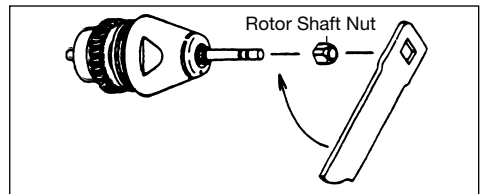

Fig.15
- ③ Finally insert the rotor shaft nut along the test bur, and firmly tighten it with a wrench while holding the rotor. (Fig.15)